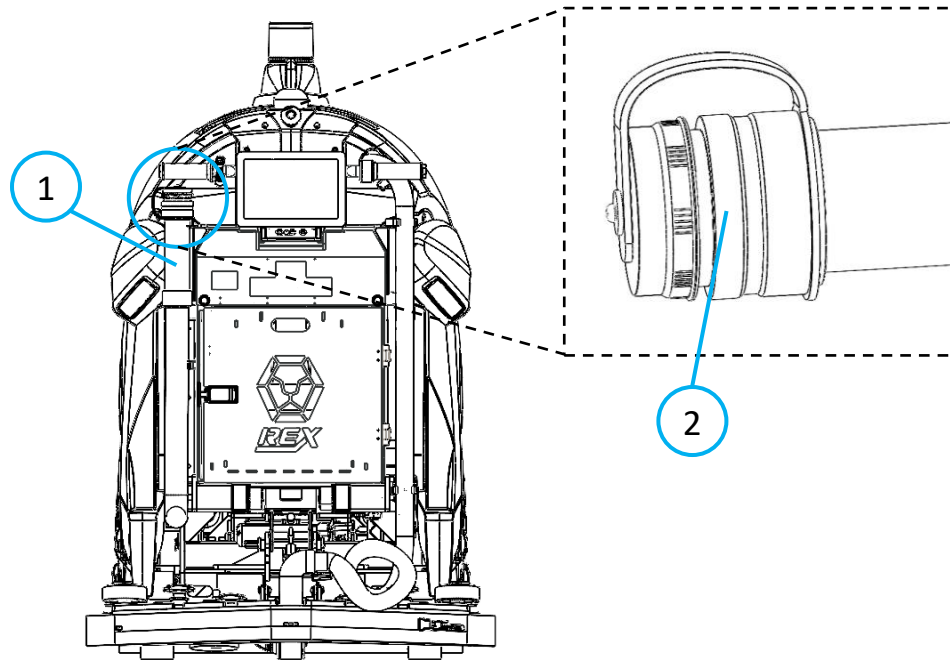

Fig. 1
1. Unmount the manual drain hose (Fig 1 – 1) from the hooks provided.
2. Point hose towards a drain or appointed disposal location and uncap the hose (Fig 1 – 2).